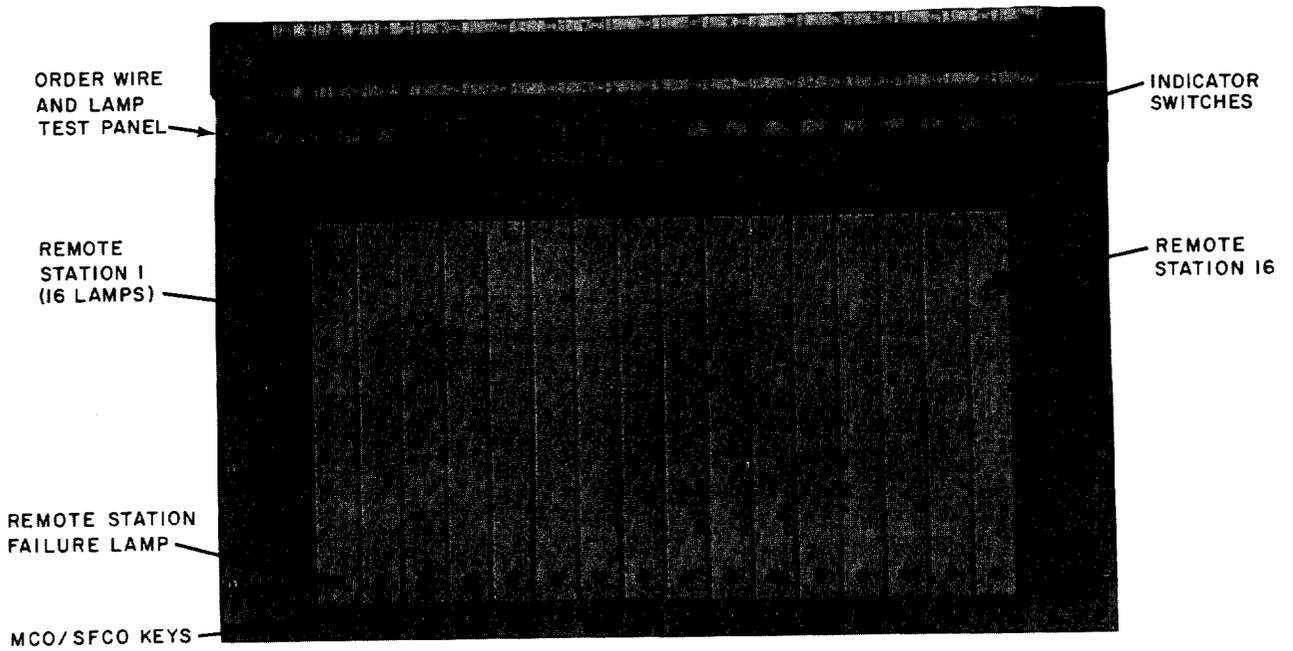

Fig. 2—Alarm Display Panel
**1.04** The alarm display panel (Fig. 2) indicates the results of the automatic alarm polling mode. The display consists of a column of 16 lamps for each remote station. If an alarm is reported by a remote station, it will be displayed in the appropriate column on the alarm display panel.